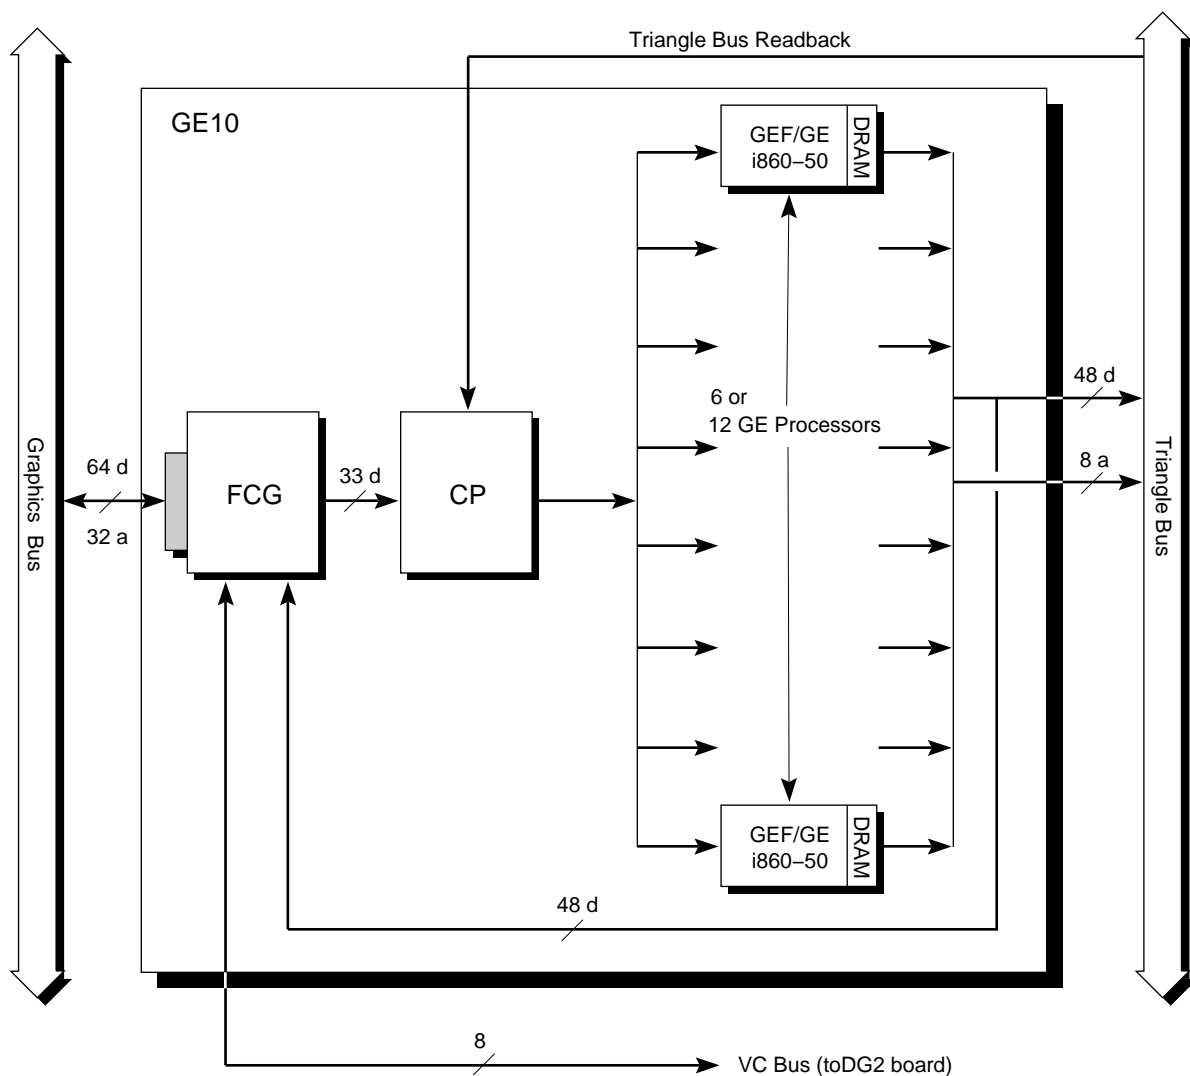

Figure 4-6 Geometry Engine Functional Block Diagram
The Geometry Engine (GE10) board processes graphics library (GL) commands and data from the system CPU board and is the first stage of the graphics pipeline. Figure 4-6 shows a block diagram of the GE10.